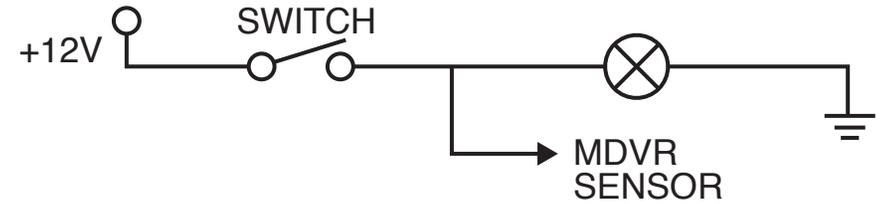

FIG. 9
- 3 Adjust the large locking wheel (FIG. 9) above the camera so that the camera can be rotated easily, yet stay in place while driving.